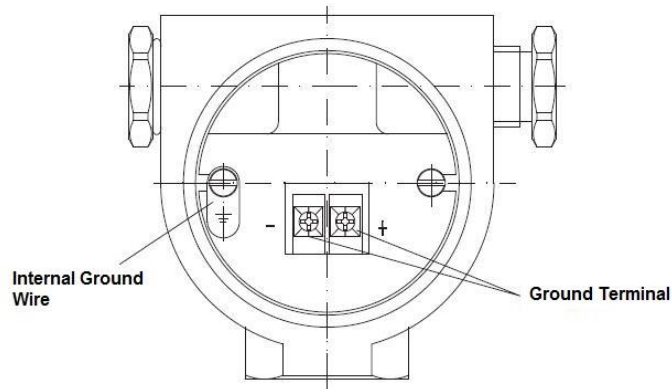

Figure 8 Remote transmission wiring diagram
6.3.2 If the level gauge is equipped with a remote transmission device, complete the wiring of the remote transmission device as shown in the figure below-Figure 8